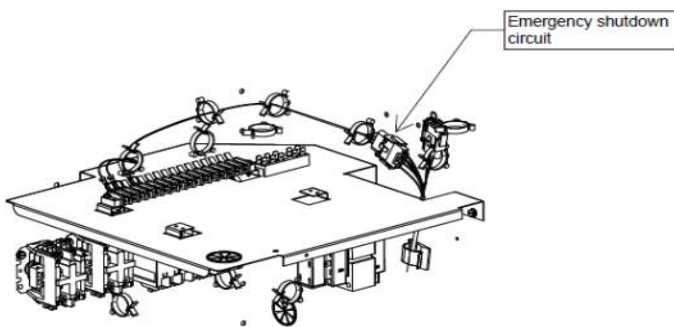

FIGURE 24
9. Route the remaining harness from the AG-3180E towards the top of the control box to the emergency shutdown circuit shown in Figure 24.